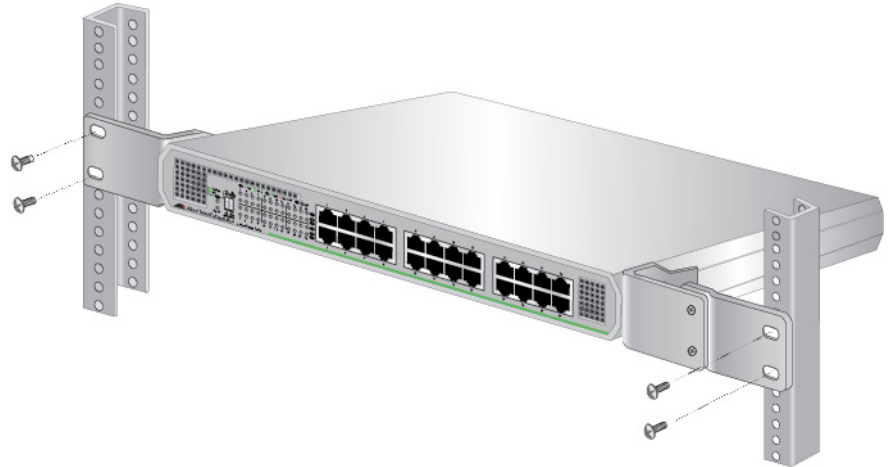

Figure 31. Attaching the Switch to an Equipment Rack
4. Mount the switch in a standard 19-inch equipment rack with four equipment rack screws as shown in Figure 31.